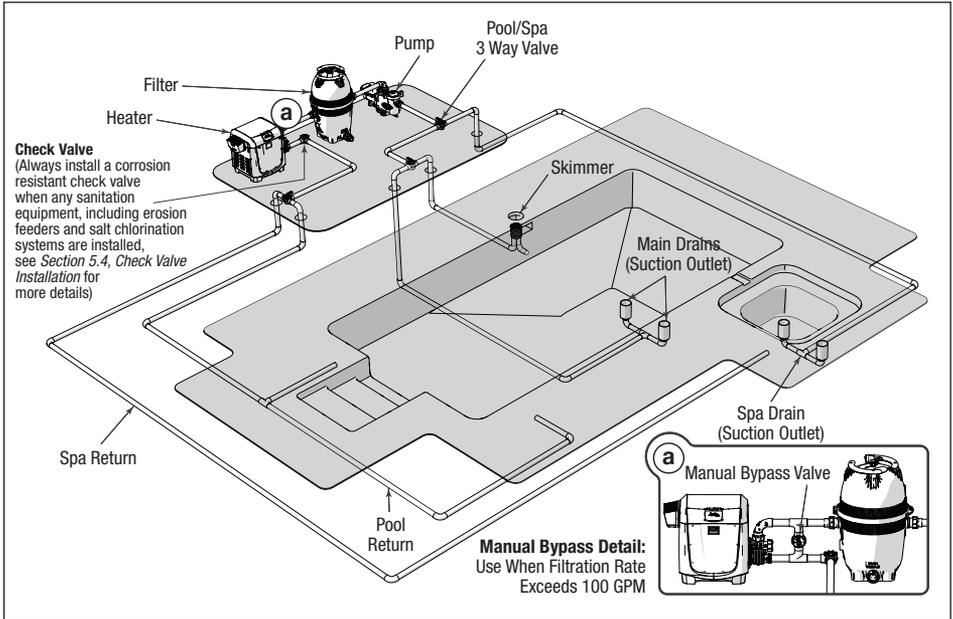

Figure 9. Typical Water Piping Configuration
Install pool system components with connections as illustrated in *Figure 9*. Any configuration other than as illustrated in *Figure 9* can affect the operation of the water pressure switch. Locating the heater above or below the pool water surface can also affect operation of the water pressure switch.
- Connect a valve between the water inlet and outlet. See inset “a.” in Figure 9.